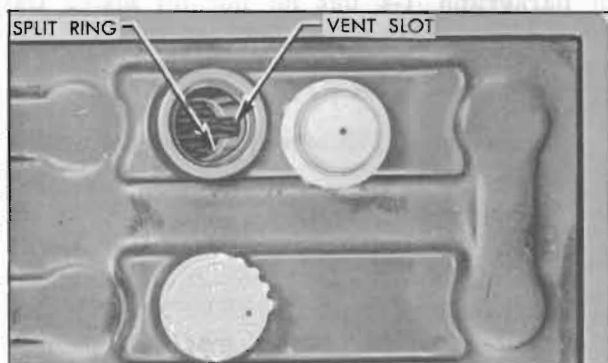

Figure 1-5—Battery Filler Well
The oil level should be maintained between the "FULL" and "ADD" marks on gauge rod; each space between marks represents 1 quart. Do not fill above the "FULL" mark. See figure 1-5.
12. *Battery.* Add distilled water to bring level to split ring at bottom of filler well. **WARNING:** Do not overfill. Clean top of battery; if wet with acid, neutralize with soda and wash clean. See figure 1-5.